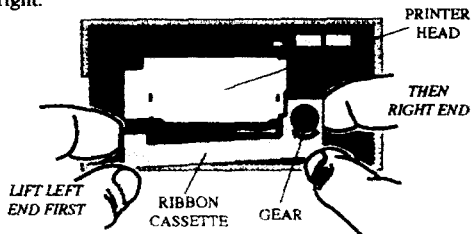

Fig. 2-6. Remove Ribbon Cassette
2. Remove old cassette (Figure 2-6)